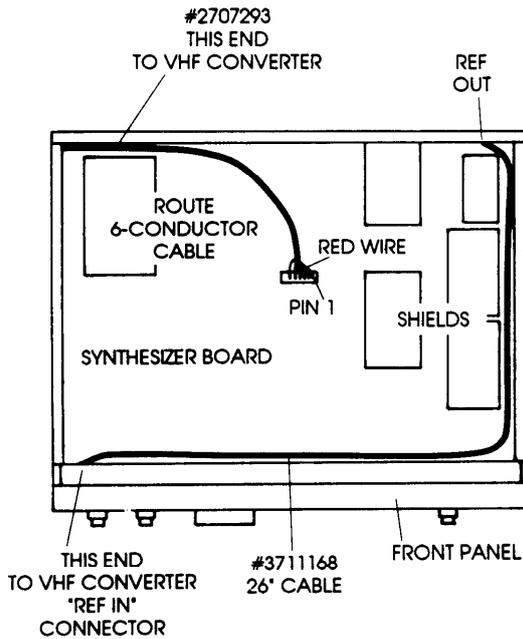

FIGURE 7 R8 BOTTOM VIEW
9) With the converter assembly now secured in the chassis with 6-conductor cable attached, position the R8 so it rests on its left-hand side (facing front of receiver). Locate the unconnected end of the 6-conductor cable and connect it to the synthesizer board connector in the orientation shown in Figure 7. Be careful to align the RED conductor on Pin 1 of the synthesizer board assembly connector header. Position the cable assembly so that it routes toward the rear panel (reduce any excess slack cable length near the VHF converter to provide the proper routing along the rear panel and its approach to the synthesizer connector header).
10) Connect the supplied 26' 'REF' coaxial cable #3711168 to the 'REF OUT' connector located near the right rear corner of the synthesizer board. Position the cable as shown in Figure 7, routing the free end of the coax cable along the front panel and up to the VHF Converter assembly end nearest the front panel.